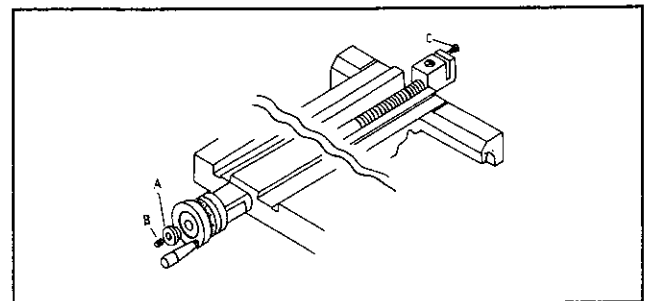

Fig.32
- (1) Loosen the set screw (B) on handwheel (Fig. 32), to adjust or tighten the plug (A) of handwheel to eliminate the backlash on handwheel.
- (2) To release the lock screw of cross slide and rotate the cross slide handwheel to move it backward till the cross slide nut of its screw get out of saddle as Fig. 32. Tighten the adjusting screw (C) slightly and repeat the handwheel rotating for the cross slide movement sequence until the backlash was eliminated and smooth movement. Re-tighten the lock screw of cross slide.